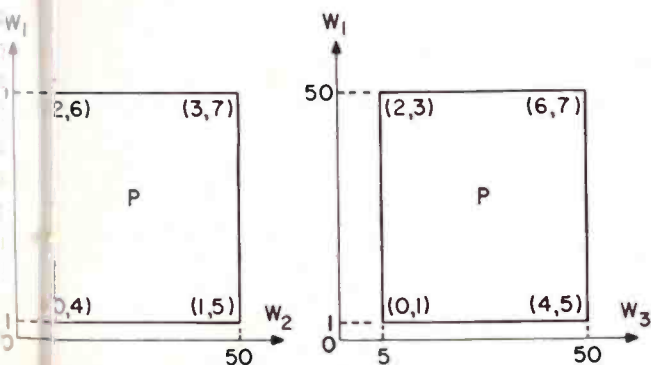

Fig. 9: Space of the operating points for a tandem feedback amplifier.
The gain parameters of  $T_1$ ,  $T_2$  and  $T_3$  are designated by  $W_1$ ,  $W_2$  and  $W_3$ , respectively. Fig. 9 shows the rectangular parallelepiped, P, in the space of operating points corresponding to all permissible values of W. It is assumed that the normal value of the gain parameters is 50, that  $W_1$  can be as small as one and  $W_2$  and  $W_3$  can be as small as five. The rectangular parallelepiped has 8 vertices which are tabulated in the figure.
Fig. 11 shows plots of the external voltage gain of the amplifier for various values of the gain parameters. The amplifier was designed so that the loop gains  $A_1\beta_1$  and  $A_2\beta_2$  are equal to one for frequencies between 600 and 8000 cps. It is evident from the figure that the gain compensation predicted by (11) is very effective over this frequency band. It was found experimentally that the amplifier was stable when  $W_2$  or  $W_3$  was reduced to one even though the lower limit for these gain parameters, in Fig. 9, is